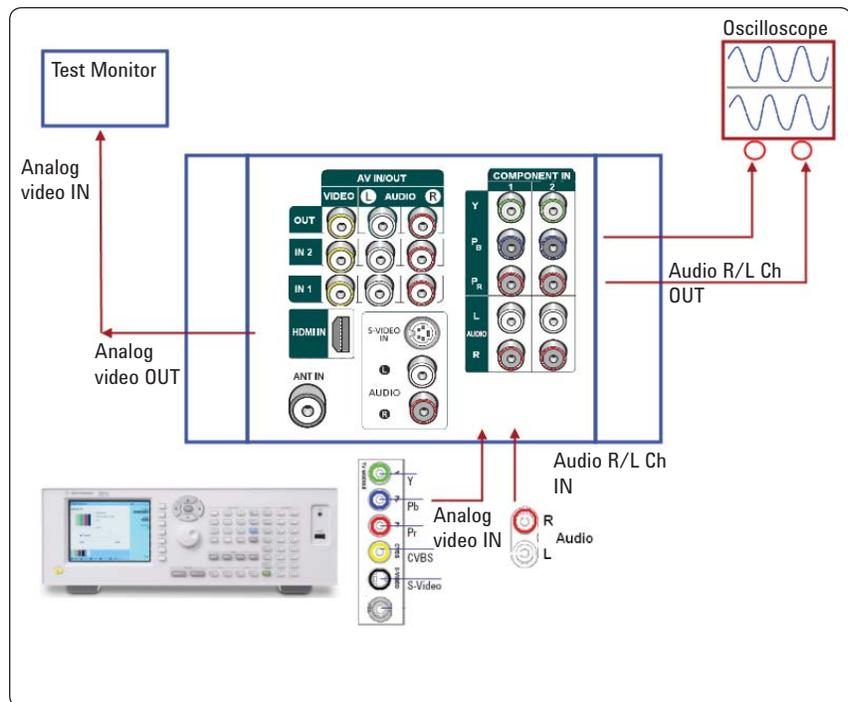

Figure 2. The diagram for AV test setup
Figure 2 shows the setup for audio/video (AV) testing. This test verifies that the analog composite video (CVBS) input/output connections, component video input connection, S-video input connection, HDMI, and all the corresponding stereo audio input or output are working properly.